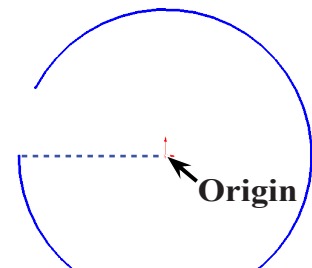

Fig. 2
Step 3. Click **Centerpoint Arc**  (S) in the Arc flyout  on the Sketch toolbar.
Step 4. Sketch a slightly open arc starting from the Origin , **Fig. 2**. To sketch the arc, click the Origin to place the center of the arc. Start the first endpoint directly left of the Origin, then swing the arc down around counterclockwise. Click to place the second endpoint leaving a small gap in the arc, **Fig. 2**. Use the inferencing line, the dotted line that appears when you sketch the arc.